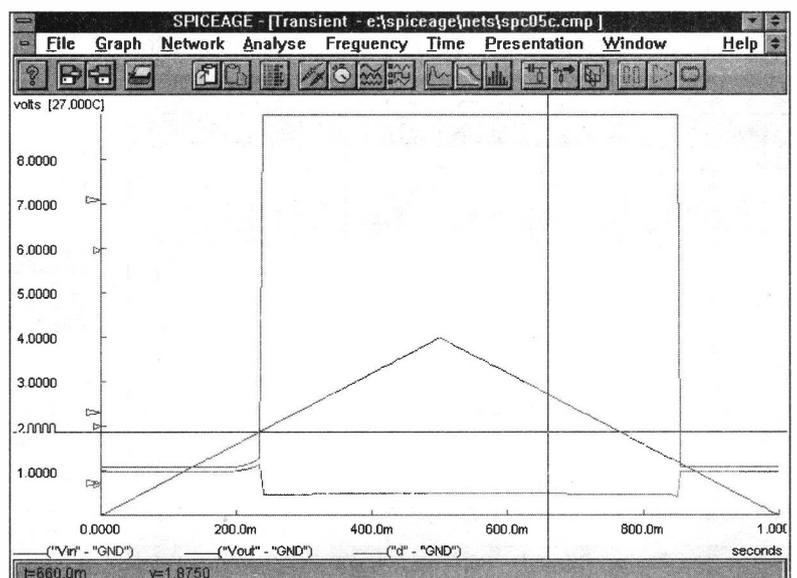

Figure 5: the behaviour of the thermostat circuit as input voltage is ramped up and down
Figure 5 shows the voltage input to the thermostat circuit and its output at the collector of Q2. At first, with 0V input, Q1 is off. This pulls up the voltage at its collector, turning Q2 on. This pulls down the output at the collector of Q2. When Q2 is on, the current through R6 produces 1V at the emitter. Consequently, the emitter of Q1 is at 1V and the base of Q1 needs to be at 1.6V before it can be turned on. The horizontal cross-hair in figure 5 shows that Q1 turns on as V_{in} reaches 1.875V (there is a voltage drop across R1). This turns Q2 off and V_{out} rises sharply to 9V. In one possible application of this circuit R5 is the coil of a relay controlling a heater. The action just described turns off the relay when the temperature exceeds the upper threshold. Turning off Q2 reduces the current through R6 and the voltage across it is reduced to
0.47V. This puts the base of Q1 at 0.47V and Q1 can not be turned off until its base falls below 1.07V, the lower threshold. Figure 5 confirms this, showing that Q1 is not turned off until V_{in} has reached 1.1713V. This illustrates the two features of a Schmitt trigger:
The problem now is to match the values of V_{in} that we obtain from the simulation with the values we have calculated for the thermistor/Rfix potential divider. The first step is to try to match the hysteresis. For the thermistor it is $1.39 - 1.15 = 0.24V$. For the circuit as shown by figure 5, it is $1.875 - 1.1713 = 0.704V$. We have to reduce the hysteresis of the circuit. The main cause of hysteresis is the change in voltage across R6, so we can try the effect of reducing R6. Try altering the value of R6 in the netlist and re-running the transient analysis. On a breadboard, substitute a resistor of lower value for R6 and re-measure the thresholds. After trying various values, we arrived at 22R. Bearing in mind that the simulation is intended to represent a real circuit, we like to keep to standard E24 values as far as possible, to make it easier to translate it into hardware later. When R6 is 22R, the analysis produces a plot very similar to figure 5, but with different thresholds, 1.28V and 0.96V, giving a hysteresis of 0.32V. This is much nearer to the desired 0.24V but not near enough yet. We tried reducing R6 further but then ran into one of the problems inherent in simulators.